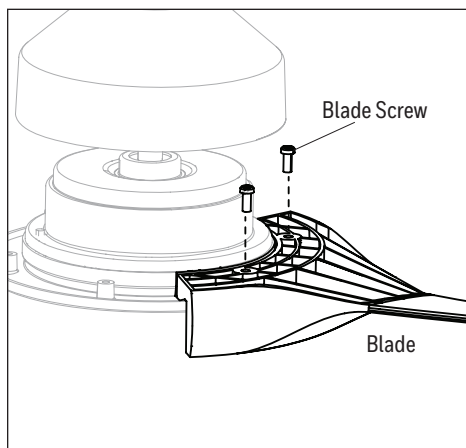

Figure 5.3
3. Attach the blades to the blade ring using the six blade screws from the hardware bag (Figure 5.3).